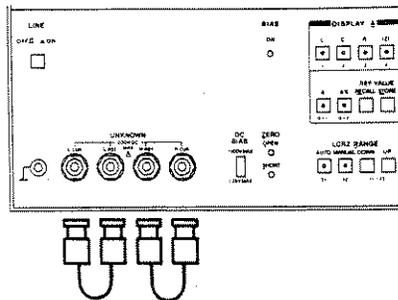

Figure 4-3. Self Operating Test Setup.
1. Connect LCUR and LPOT terminals with a BNC to BNC cable as shown in Figure 4-3. Similarly Connect HCUR and HPOT terminals.